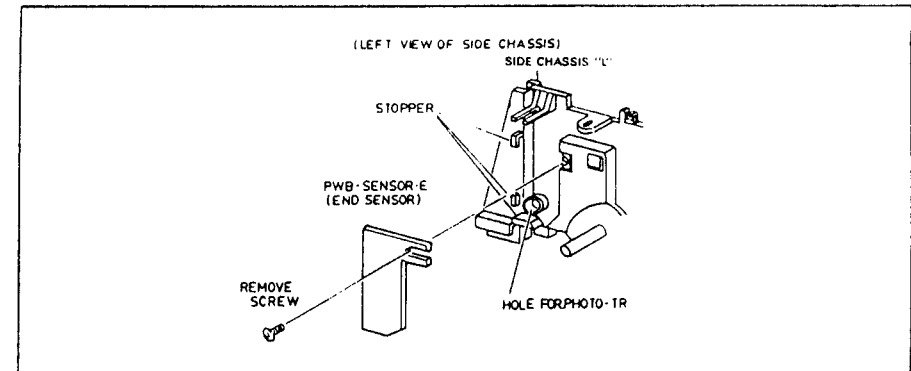

Fig. 16 Pwb End Sensor Removal
3. Pwb end sensor remove (Fig. 16)
- After removing the screw at the side chassis (L), disintegrate PWB end sensor.